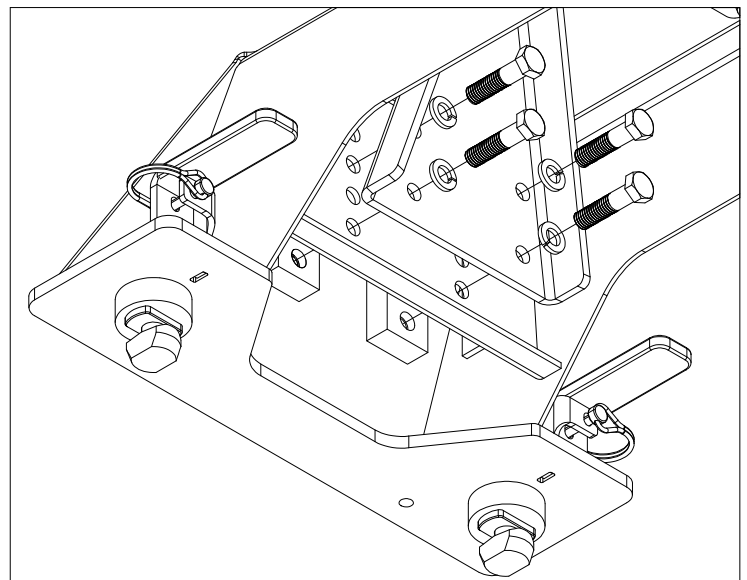

Figure A2: Passenger pivot arm mounting location.
- Secure arms.** Locate both pivot arms, the four threaded blocks, eight 1/2" cap screws, and eight 1/2" split lock washers. Place the lock washers over the cap screws. Align the flat side of the pivot arm flat against the bolt plate and install four 1/2" cap screws through the holes on the arm, holding the arm in place, as shown in Figure A2. Pass the threaded blocks under the base and align the block with each set of screws and start each screw, as shown in Figure A2. Note that the sides of the block have threaded holes on one side and smooth bored holes on the other side. When installing the threaded blocks it is critical that the side with the smooth holes is flat against the bolt plate when installed. After all the screws are started through the arms, torque each bolt to 110 ft-lbs.